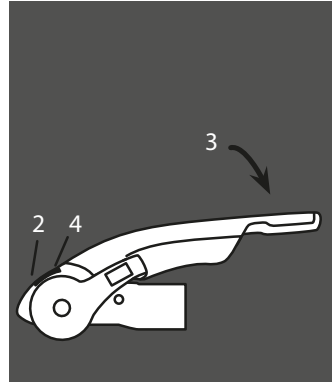
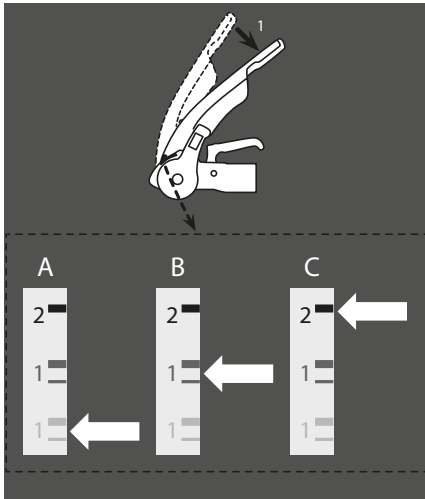

Figure 9 - Correct engagement with towball
Figure 13 - Checking left / right friction pads
⚠ WARNING: The coupling is correctly engaged when the green edge of the safety indicator button is visible (Fig 9/Item 2).
To operate the stabiliser (once coupled to the towball), simply press the stabiliser lever down as far as it will go (Fig 9/Item 3).
To ensure the stabiliser is correctly coupled, check the arrowhead lines up with the black line marked 2 (Fig 9 /Item 4 and Fig 13/C).
2. Push the stabiliser lever (Fig 13 - Item 1) down until resistance is felt (i.e. The friction pads are in contact with the ball but not yet under pressure).
3. Check the position of the arrowhead on the arm of the stabiliser. If it lines up with the two green lines then the friction pads are still as new (Fig 13 - A).
4. If the arrowhead lines up with the two red lines then the friction pads are worn and should be replaced immediately (Fig 13 - B).
Note: When the stabiliser lever is correctly applied, the arrowhead should line up with the black line marked 2 (Fig 13 - C).